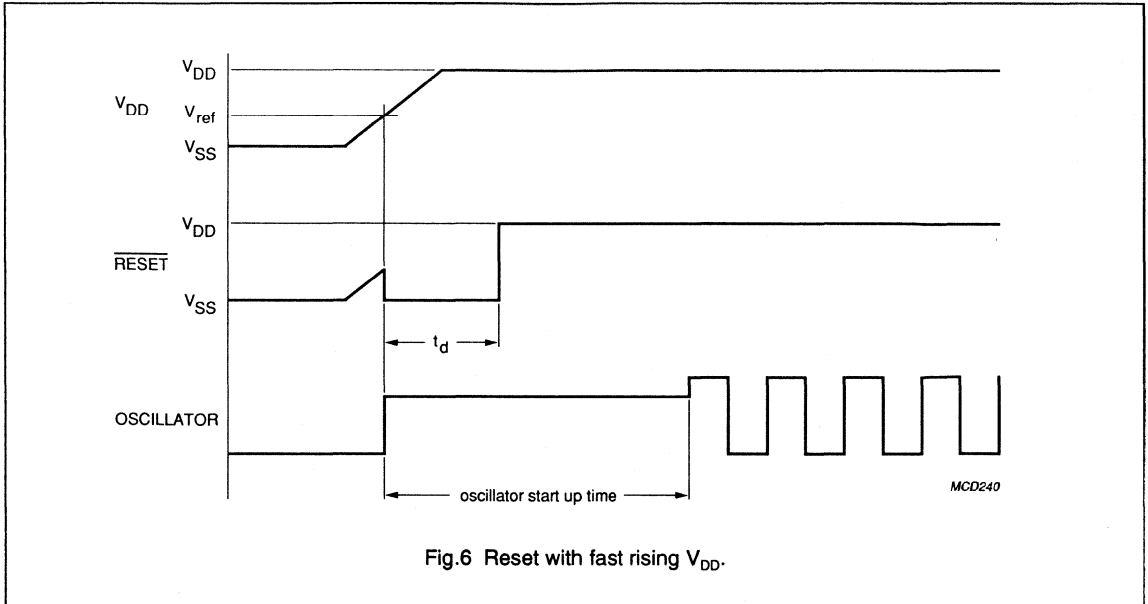

Fig.6 Reset with fast rising  $V_{DD}$ .
2. If  $V_{DD}$  rises above the minimum operation voltage before time period  $t_d$  is exceeded, no external components are necessary, (See Fig 6).